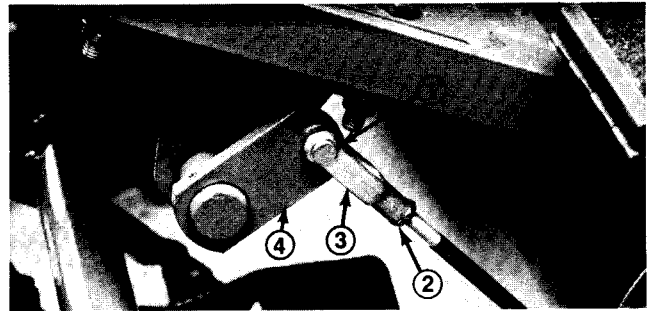

Figure 3
A brake adjustment rod is located on each side of the machine so the brakes can be equally adjusted (Fig. 3).
2. If both wheel do not lock equally, disconnect the brake rods by removing cotter pin and clevis pin (Fig. 3).